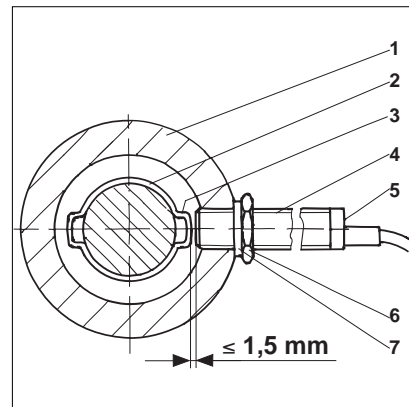

Fig. 23-4 Fitting and adjusting the sensor
2. Screw the sensor into the fan shaft bearing until it just touches one of the cams and then screw it back by half a turn (max. clearance 1.5 mm), see fig. 23-4.